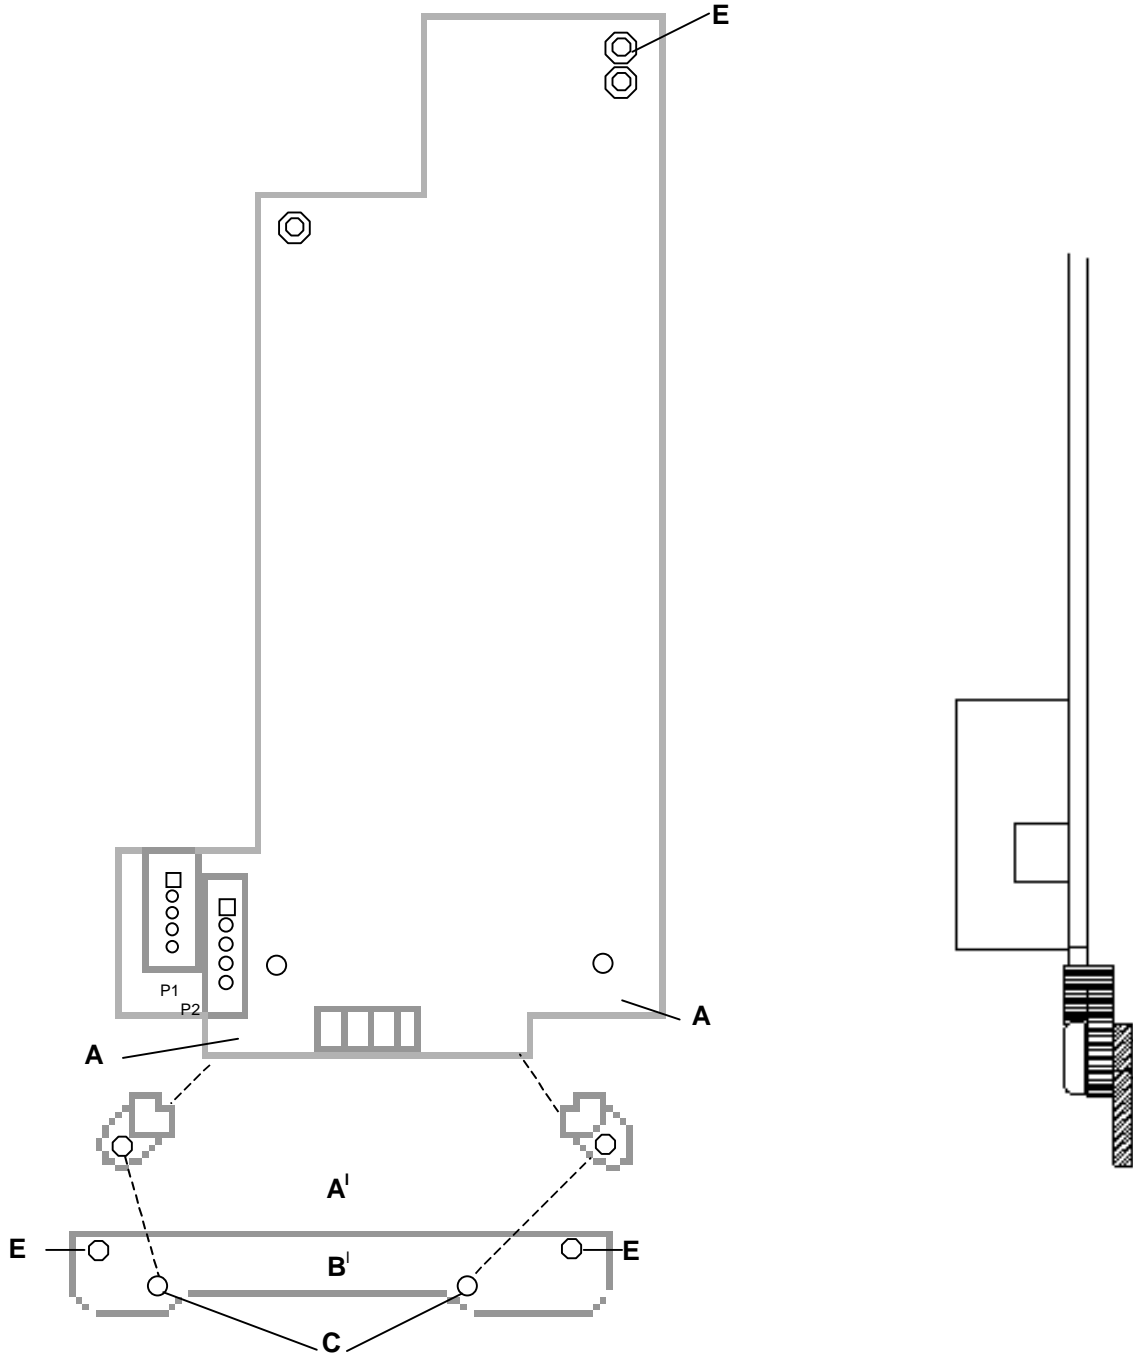

Figure 1.5 - Option Card Assembly Front and Side View (Right)
2. Deleted item 6 in Section 1.3, *Installation Procedures for Drives Under 40 Horsepower*, and re-numbered steps accordingly.
3. Revised Figure 1.5.